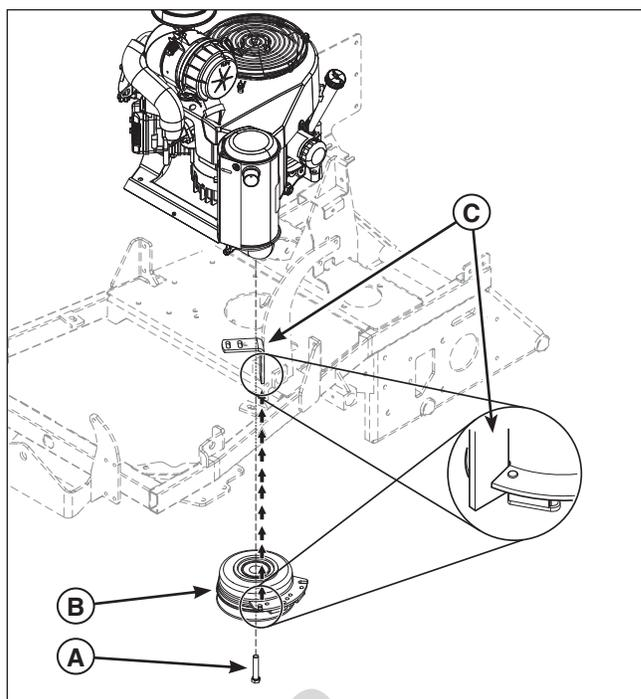

Figure 50. Removing the PTO Clutch
5. Loosen and remove the crankshaft bolt (**A, Figure 50**) and the PTO clutch (**B**) from the engine crankshaft.
11. Reinstall the PTO clutch (**B, Figure 50**) on the engine crankshaft so that the slot in the PTO clutch lines up with the PTO clutch mounting tab (**C**) and secure with the crankshaft bolt (**A**). Tighten the crankshaft bolt to 65 ft. lbs (88 Nm).